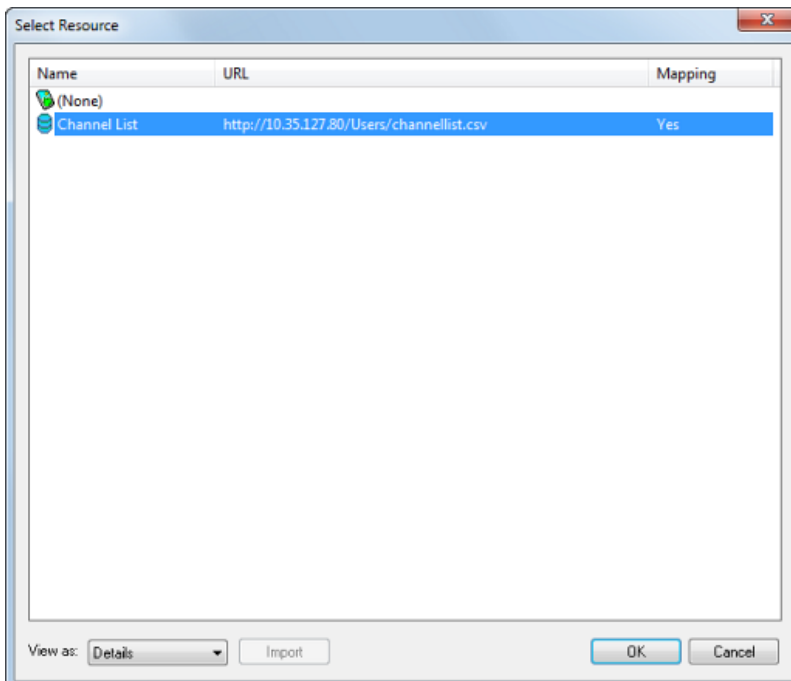

FIG. 130 Select Resource dialog.
2. Select the file to use as the Data Source for the selected Listview button (see "Channel List in FIG. 130):